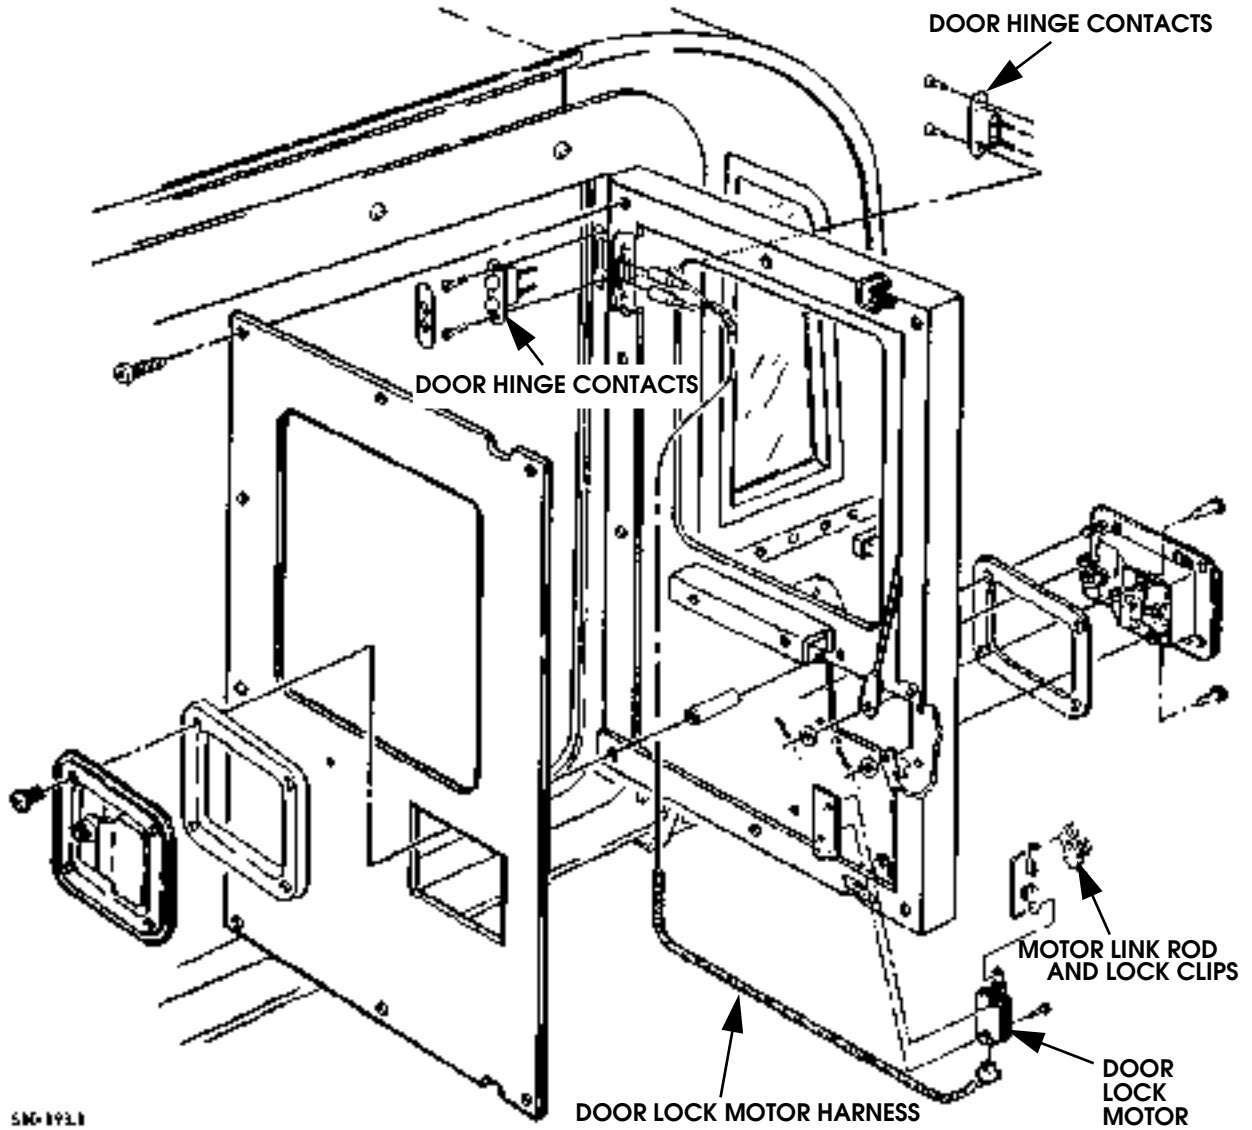

Figure 10-150: Cargo Door Electric Locks
5. Remove lock motor rod from door handle (Figure 10-150).
2. Install lock motor rod to door handle lock latch with plastic clip (Figure 10-150).
4. Install lock motor rod to door handle lock latch with plastic clip (Figure 10-150).